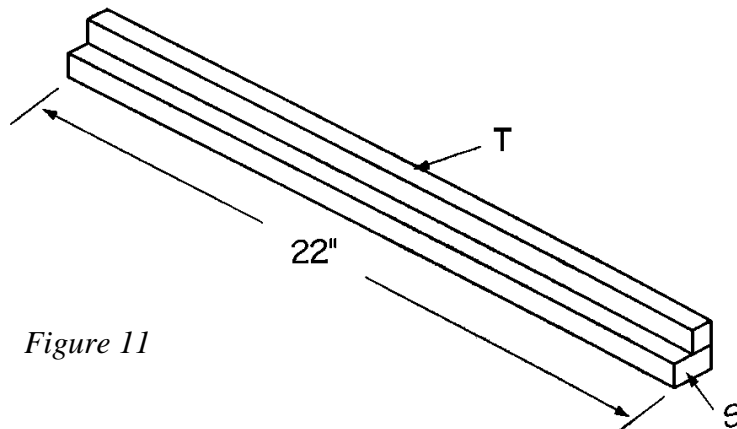

Figure 11
2. Cut one vertical drawer support (T) from 1 x 1 pine, measuring 22" long.
3. Apply glue to the meeting surfaces, and attach the vertical drawer support (T) to one edge of the horizontal support (S), as shown in *Figure 11*. Align the long edges accurately. Use 1-1/4" finishing nails, spacing them every 3 or 4 inches. Allow the glue to set up.